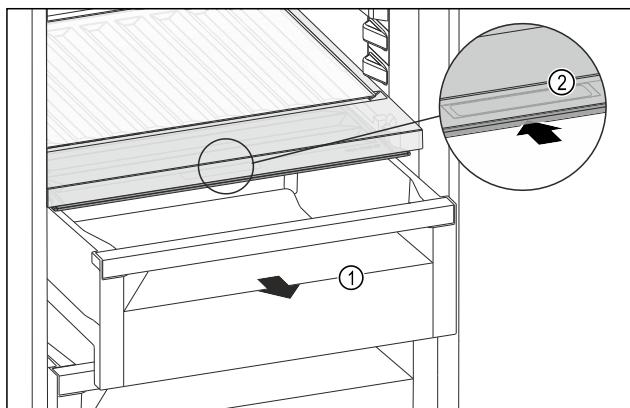

Fig. 122
- Pull out the drawer Fig. 122 (1).
- Grip the handle recess Fig. 122 (2) on the lid while pulling the lid backward at the same time.